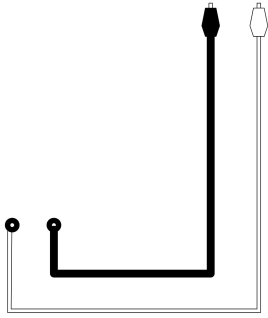
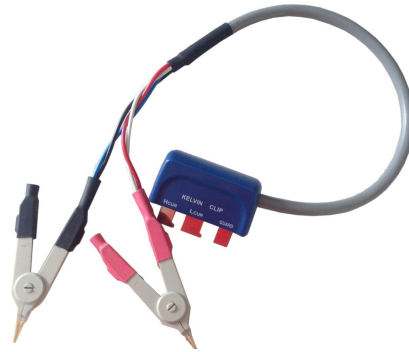

Figure 13
Figure 14
*Reminder: To achieve the proper measurement accuracy, refer to the "correction function" section for open and short circuit correction before the measurement. The test fixture can be rubber plug - alligator clip (see figure 13), Kelvin test fixture (figure 14), or the component can be directly inserted into the position 17 in figure 1 (notch). The rubber plug - alligator clips are mainly used in the following examples.*